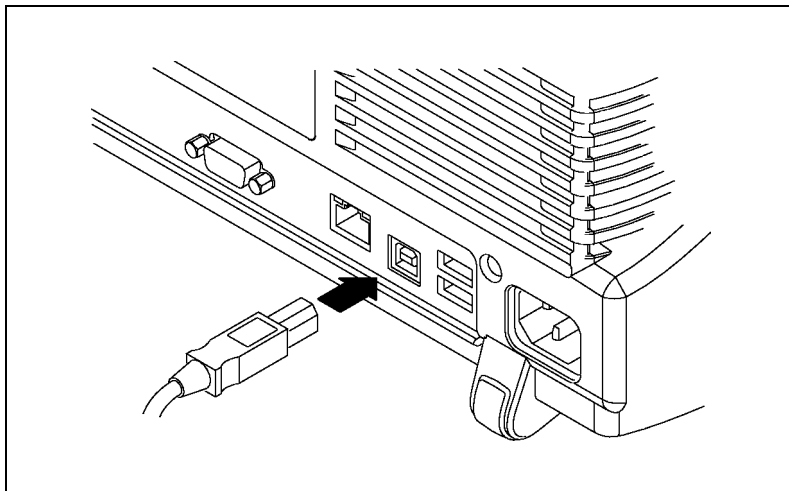

Figure 3-1. DPO4000 USB Connection
2. Using a USB device cable, plug the Type B, device-side connector into the USB device port on the back of the Tektronix DPO4000 series oscilloscope, as shown in Figure 3-1. Connect the Type A, host-side connector to your computer.